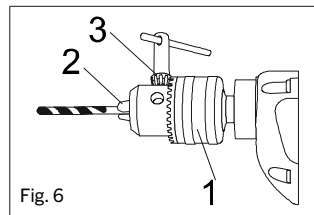

Fig. 6
2. Rotate the chuck collar (1) to open or close the jaws (2) to a point where the opening is slightly larger than the bit size you intend to use (Fig. 6).